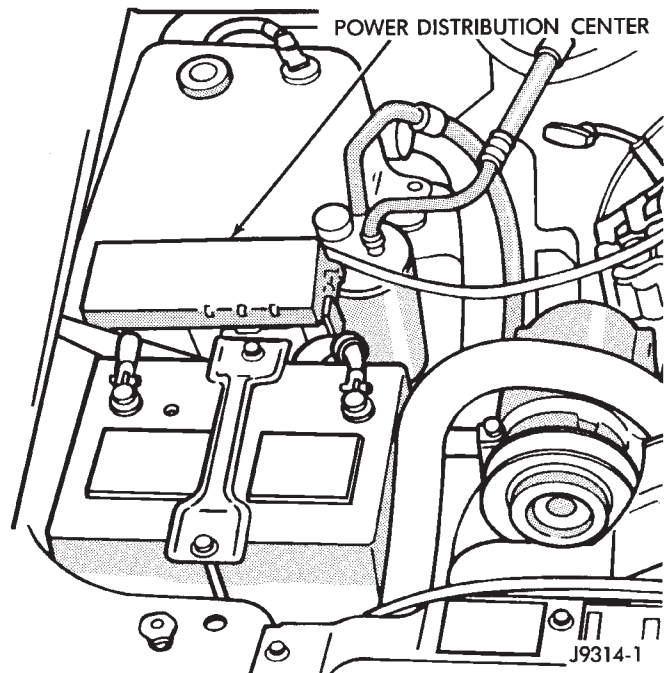

Fig. 2 Power Distribution Center (PDC)
(2) Inspect the battery cable connections. Be sure that they are clean and tight.
(3) Inspect fuel pump relay and air conditioning compressor clutch relay (if equipped). Inspect the ASD relay connections. Inspect starter motor relay connections. Inspect relays for signs of physical damage and corrosion. The relays are located in the Power Distribution Center (PDC) (Fig. 2). For the location of the relays within the PDC, refer to label under PDC cover.